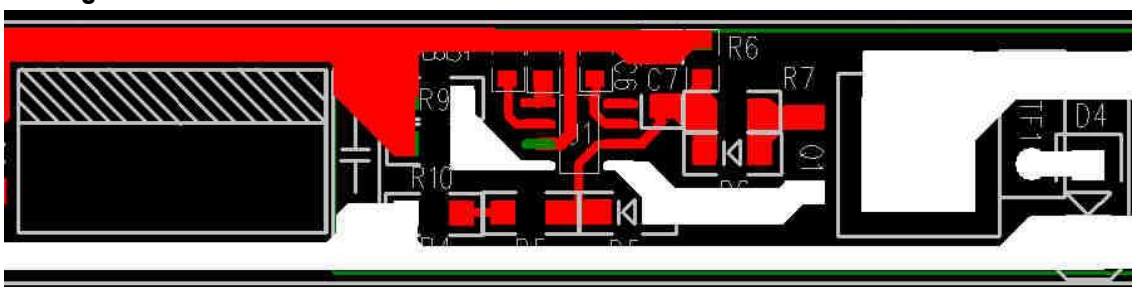

Figure 6 – U1 Placing
- 9.5. Place the BYPASS pin capacitors C5/C6/C7 and the off-time setting resistor R8 physically close to U1 on the PCB. Make sure that pin3 of U1, ground pad of C6 and C7 are connected at the same node on the PCB, away from the switching ground nodes. See Figure 6.
- 9.7. Space the U1 away from switching nodes and the large current paths to minimize noise coupling. See Figure 6.